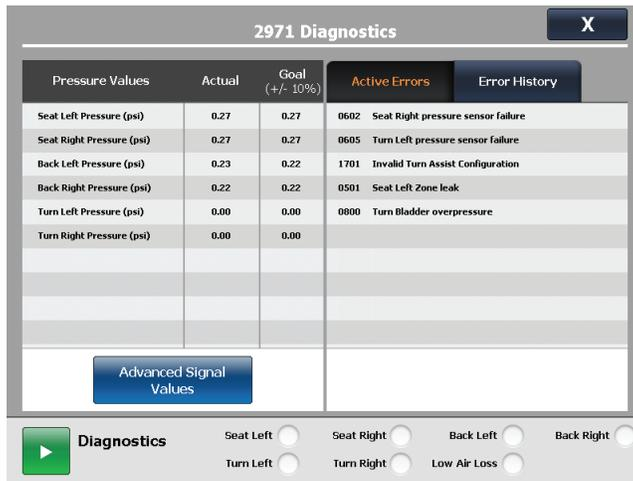

Figure 44 – Diagnostic main screen sample
1. Tap **Start** on the lower portion of the Diagnostics screen (Figure 44).